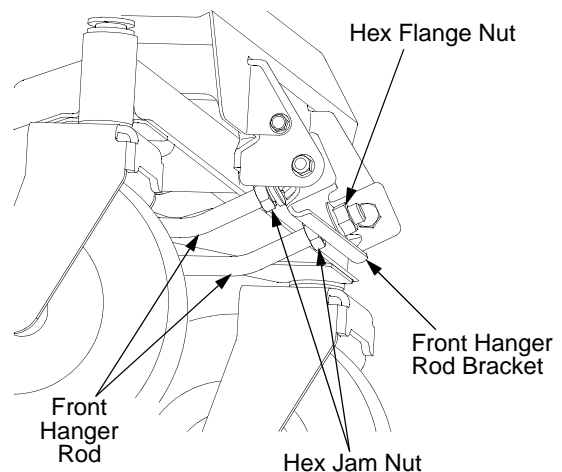

Figure 29
- From the front of the tractor, on the rearward side of the front hanger rod bracket, locate the two hex jam nuts on the deck front hanger rod. See Figure 29.
- If the front of the deck was too low, turn the hex flange nuts on the ends of the front hanger rod clockwise to raise the front of the deck. See Figure 29.